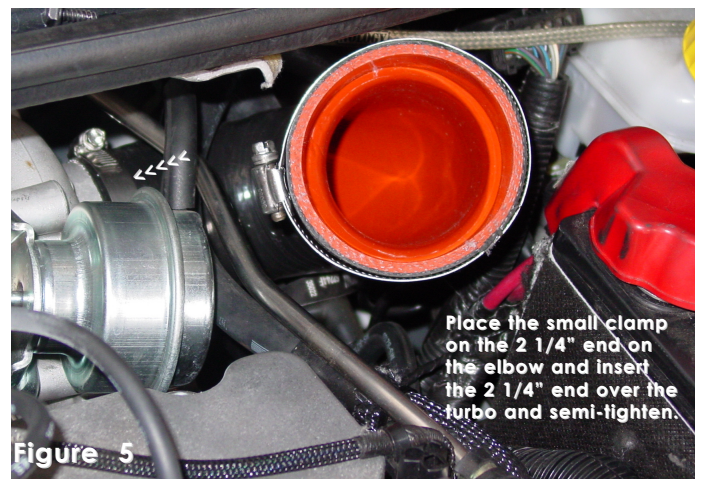

Figure 5
- 3- On the base of the battery tray, loosen the bolt located in the center section. Take the new boost solenoid bracket and insert the slotted end over the bolt loosened earlier. Position the bracket in place and tighten the bolt once again. (See fig. 5)
- 4- Take the 110 degree silicone elbow and press the 2 1/4" end over the turbo inlet. Take the small clamp in the kit and semi-tighten the clamp over the elbow on the turbo inlet. **(For easy installation put the small clamp over the silicone elbow prior to installing it over the turbo inlet).** (See fig. 5)